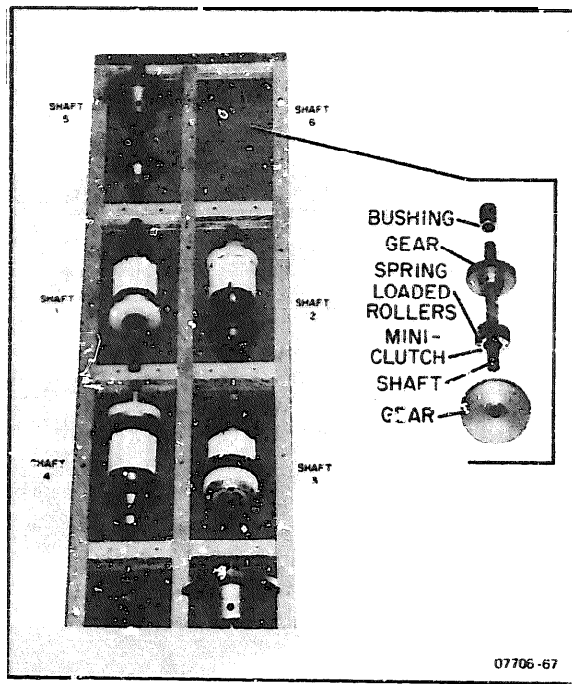

Figure 5-15. Mini-Clutch Assembly, Components
- (1) Oil with a penetrating oil such as Marvel Mystery oil.
- (2) Before re-assembly of gear shafts to side plates, oil heavily with #10 machine oil.
- c. As indicated in Figure 5-15, the mini-clutch shaft assembly is disassembled and ready for inspection of the roller bearings and springs. These mini-
d. Check the following areas of the clutch assembly, referred to in Figure 5-15: